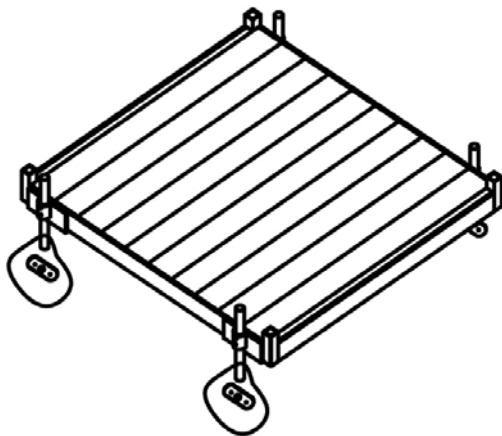

FIG 11
- i) Slip the base foot under each support tube (FIG 11).